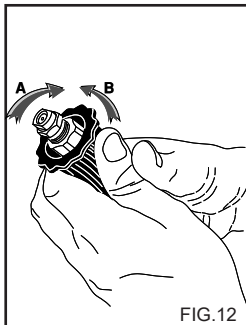

FIG.12
USING THE ADJUSTABLE HEAD (Fig. 12)
2) Start the cleaner, turn on the detergent tap (if present), switch on the detergent suction control on the lance (fig. 12) and spray the dirty surface with the diluted product, working from bottom to top.